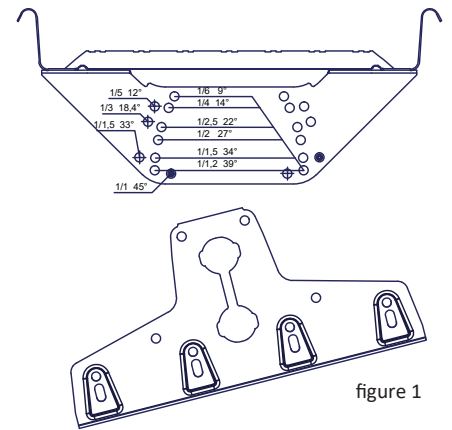

figure 1
- The roof fastener for the walkway is a combination of LE SK 350 bracket and inclination adjustment plate. Start by fixing the inclination adjustment plate to the roof bracket (figure 1) by using 2 pcs of M8x16 hexagon bolts and M8 hexagon nuts.
- The most common roof inclinations and corresponding hole placements are demonstrated in figure 1. The roof walkway should be in horizontal position after final installation.